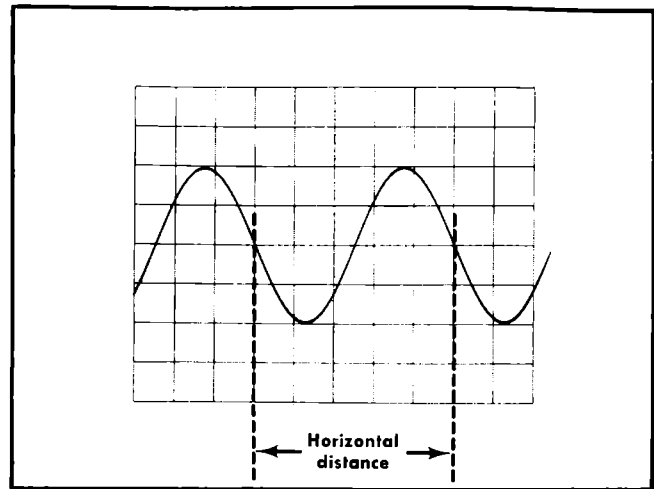

Fig. 2-8. Measuring time duration (period) between points on a waveform.
2. Set the time-base triggering controls to obtain a stable display. Set the Sec/Div switch to the fastest sweep rate that will permit displaying one cycle of the waveform in less than eight divisions (some non-linearity may occur in the first and last graticule divisions of display). Refer to Fig. 2-8.
EXAMPLE: The frequency of the signal shown in Fig. 2-8, which has a period of 0.5 ms, is: